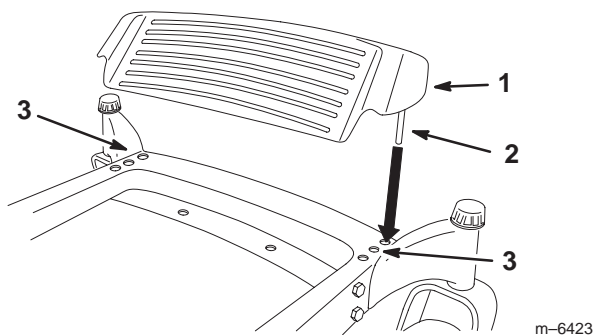

Figure 15
1. Lift up the footrest and place the rods in the same hole positions (Fig. 15).